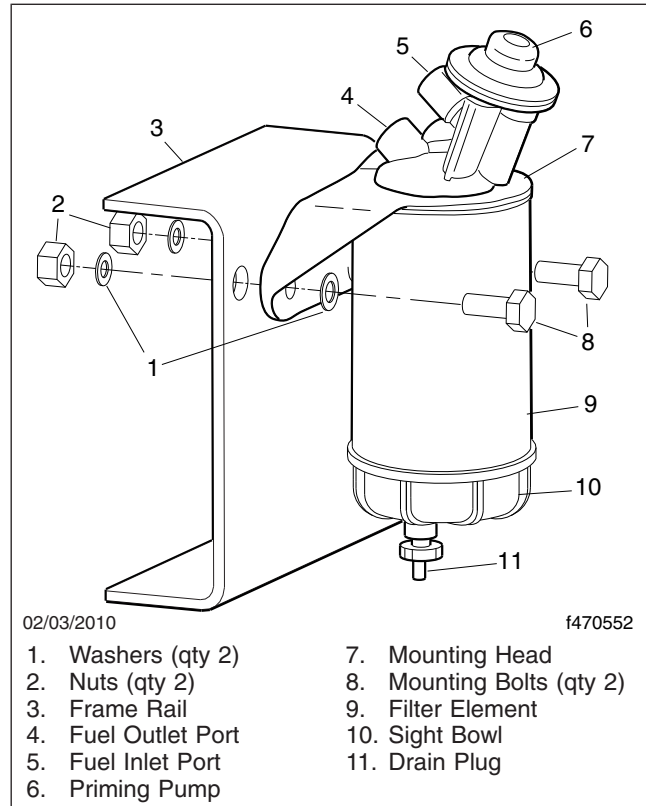

Fig. 21.16, Alliance Fuel/Water Separator Assembly and Installation
- 5.3 *Alliance/Racor Models:* Turn the drain plug counterclockwise to open it. See Fig. 21.16.